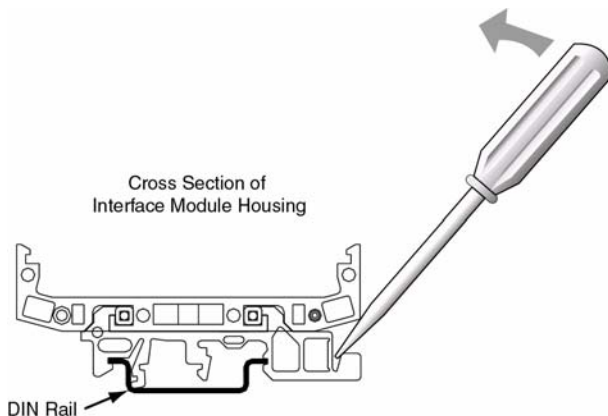

Figure 6-26 Removing the Interface Module from the Rail
2. Using a screwdriver, apply leverage towards the left (see Figure 6-26) while lifting the right side of the module. Repeat the procedure for the other mounting foot to disengage the module from the DIN rail.